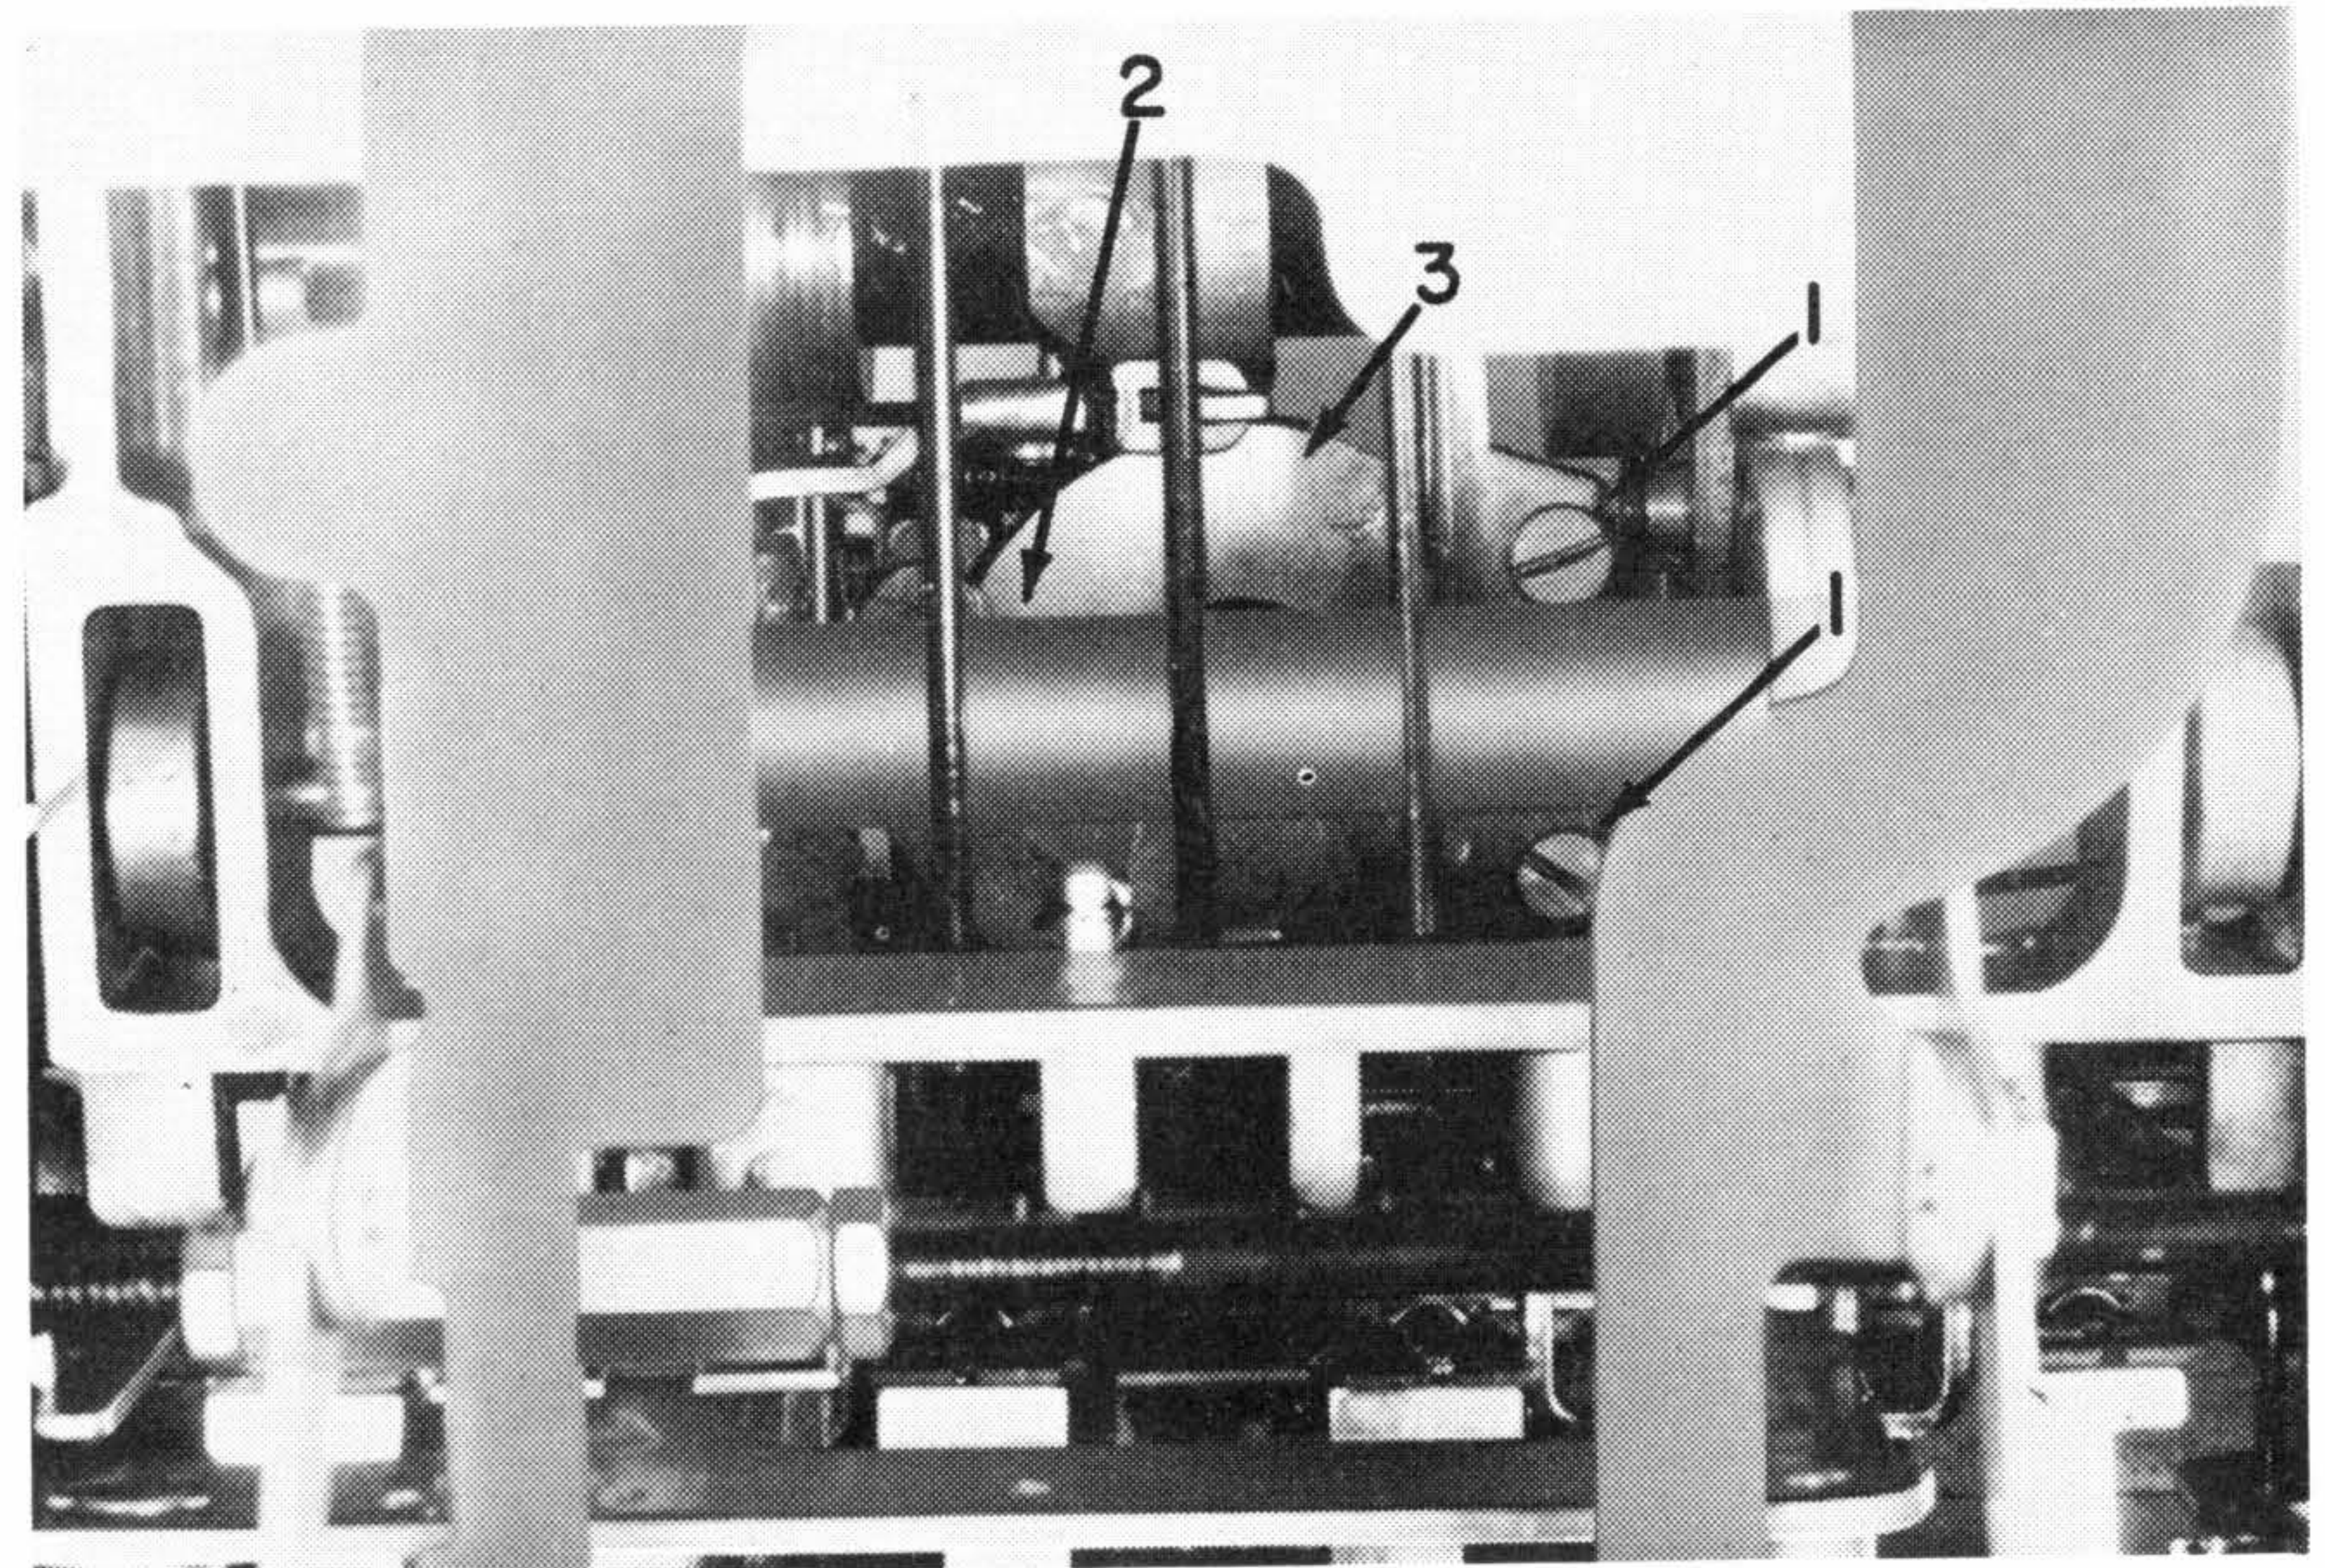

Figure 14. Rotate Spring Replacement
- a. On older machines, back out the two screws (#1, Figure 14) on the right 1/4" and remove the screw on the left, which is under the cycle shaft (#2, Figure 14).
- b. On newer machines, remove the lower right and left screws and back out the upper right screw 1/4" (Figure 14).
7. Remove the striker and rotate-spring retaining plate (#3, Figure 14). The rotate spring can now be removed. Note: In newer machines there may be a spring clip (PN 1141238) that prevents the spring from being trapped in the pulley notch. If not, one should be added on re-assembly.